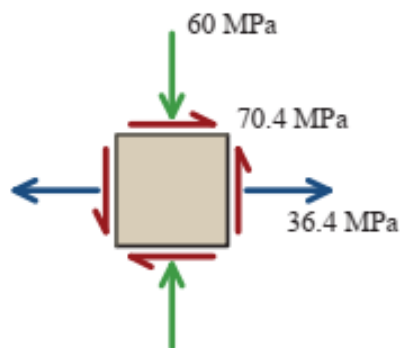

Figure 3/Rajah 3: Plane Stress Condition at a Point on the Element /Keadaan tegasan satah pada titik.
- (b). The state of plane stress at a point on the element is shown in Figure 3. Draw the Mohr's circle and identify the principal stresses and the maximum in-plane shear stress acting at the point.